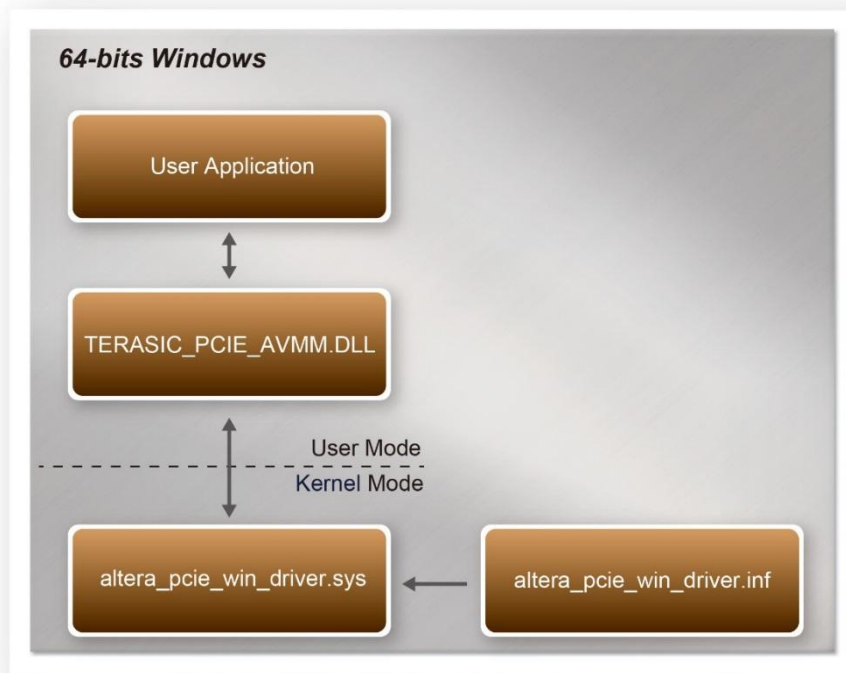

Figure 5-2 PCI Express Software Stack
**Figure 5-2** shows the software stack for the PCI Express application software on 64-bit Windows. The PCIe library module TERASIC\_PCIE\_AVMM.dll provides DMA and direct I/O access allowing user application program to communicate with FPGA. Users can develop their applications based on this DLL. The altera\_pcie\_win\_driver.sys kernel driver is provided by Intel.